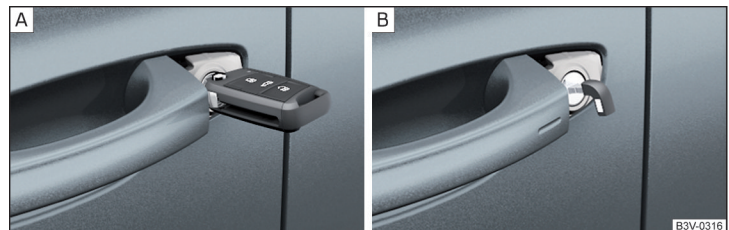

Fig. 247 Handle on the driver's door: key with fold-out key bit / KESSY emergency key
- For vehicles with LHD, insert the key with the fold-out key bit **with the buttons facing upwards** » Fig. 247 - **A** into the lock cylinder and unlock/lock the vehicle.
- On vehicles with the **KESY system**, hold the emergency key with the handle facing downwards » Fig. 247 - **B** into the lock cylinder and unlock / lock the vehicle.